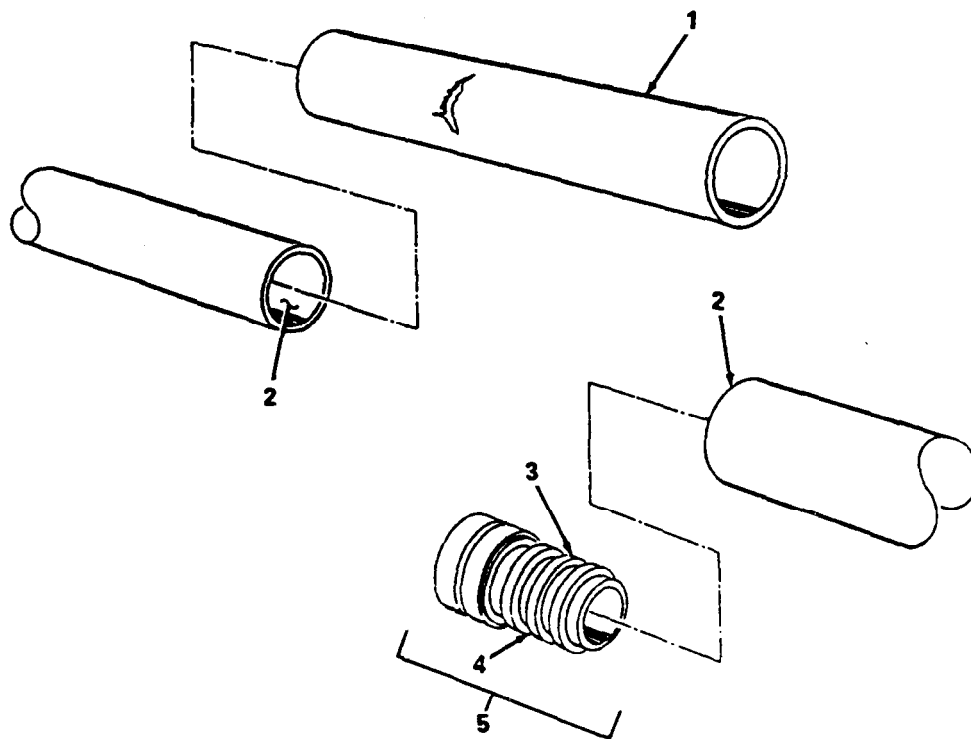

Figure 3-8. Major Breaks and Ruptures, Repair (Models ADC-1200 and 1461) (Sheet 1 of 2).
(2) Major breaks and ruptures (Models ADC-1200 and 1461) (figure 3-8)